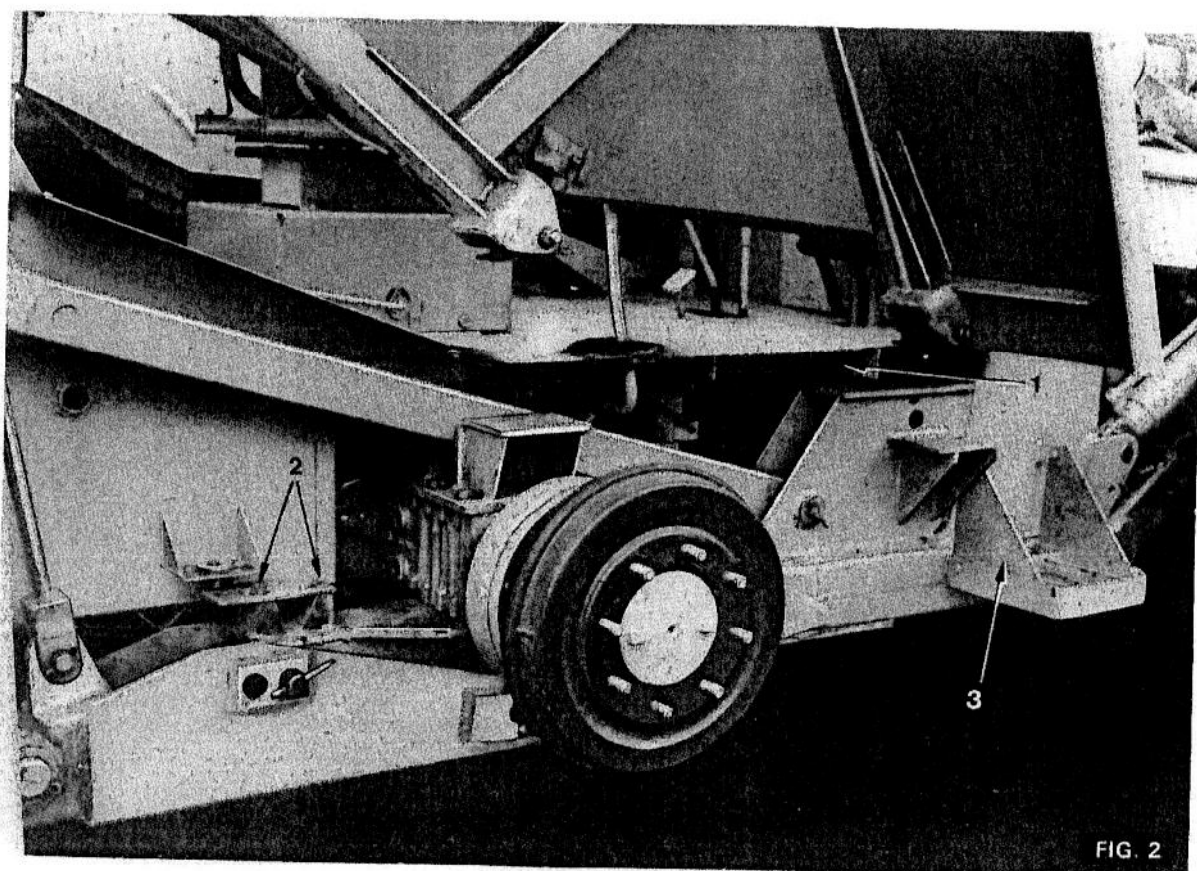
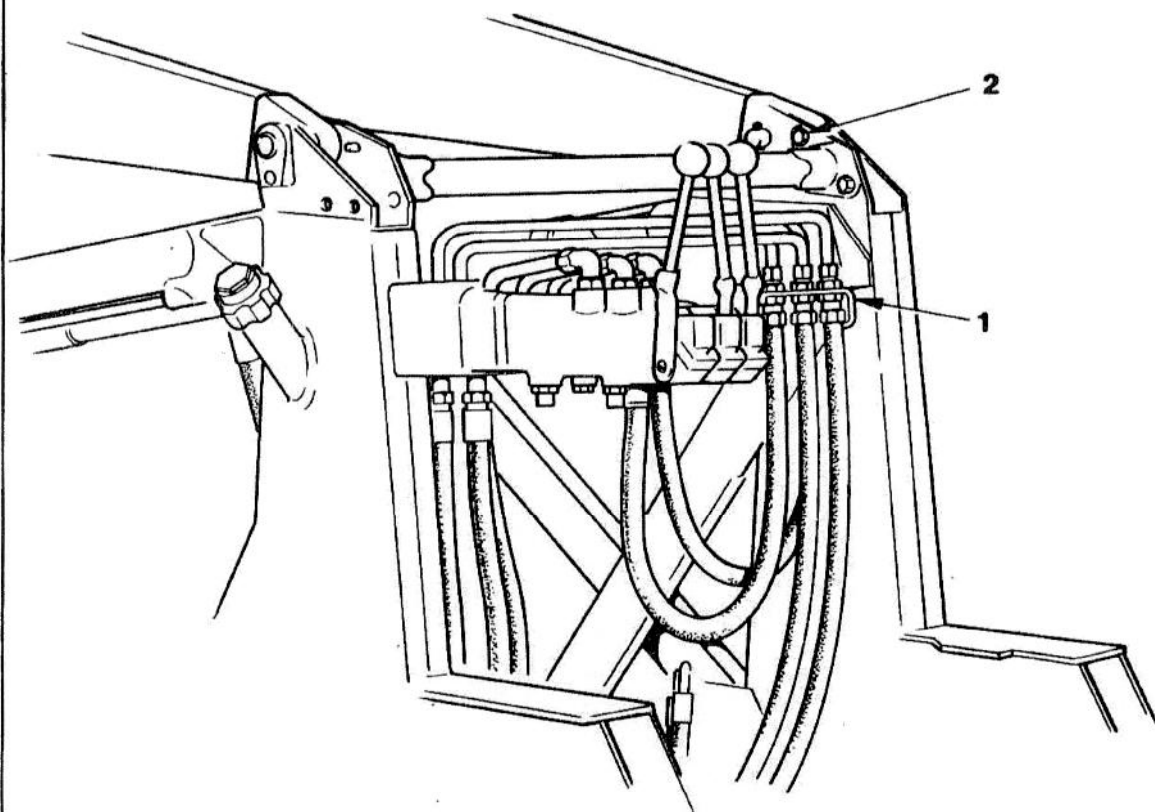

FIG. 2
FIG. 3
7. (Fig. 2) Remove the bolt (1) which secures the platform to the side frame.
8. Remove the two bolts (2) which secure the rear well to the side frame.
9. Remove the footstep unit (3) by unscrewing the four securing bolts (R.H. frame only).
10. (Fig. 3) Release the cross pipe securing bracket (1) from the inside face of the side frame.
11. Remove the cross member retaining bolts (2).